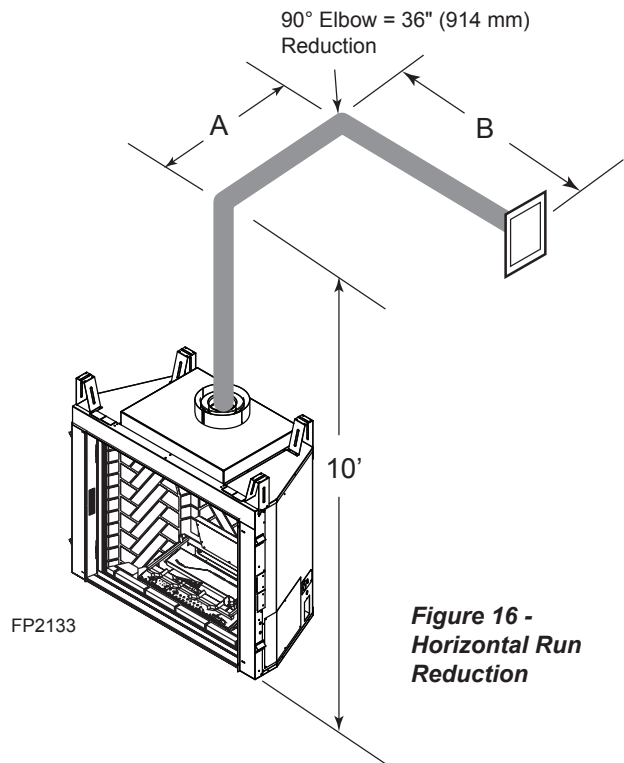

Figure 16 - Horizontal Run Reduction
- If a 90° elbow is used in the horizontal vent run (level height maintained) the horizontal vent length is reduced by 36". *Figure 16*. This does not apply if the 90° elbows are used to increase or redirect a vertical rise.
In *Figures 16 and 17* dimension A plus B must not be greater than 14½' (4.4 m).